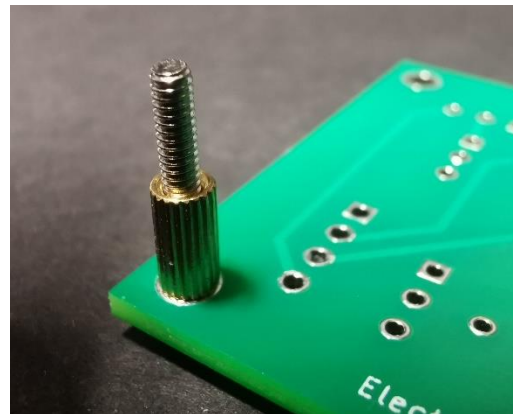

Figure 9: The standoff in the screw
13. Using Figure 9 as a reference, connect the 3 females to female jumper wires to their corresponding pins (wires: red, blue, green)